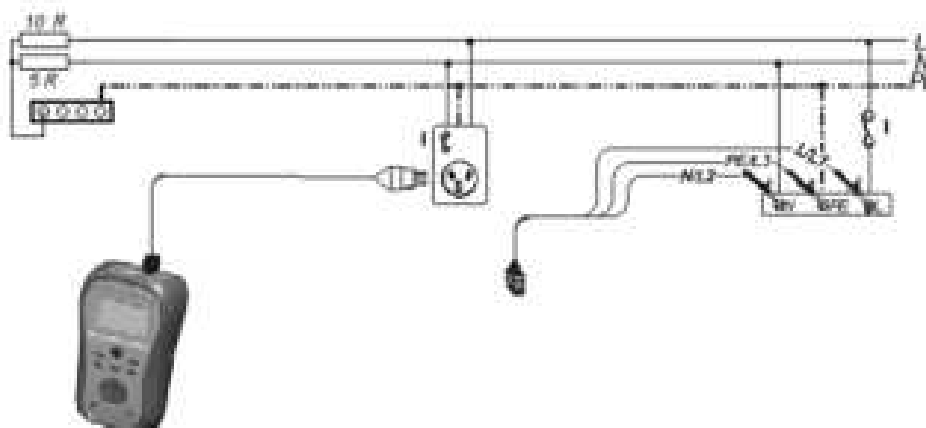

Figure 5.34: Socket test – connection of plug cable and universal test cable
- ❑ **Connect** test leads to the socket or connection terminals (see *figure 5.34*).